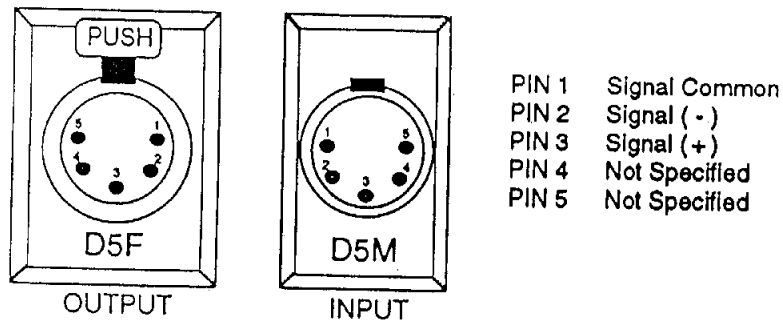

Figure 4
1. **DMX Input Connector:** Male and female 5 pin XLR type connectors are provided as per the DMX512 specification. See Figure 4.